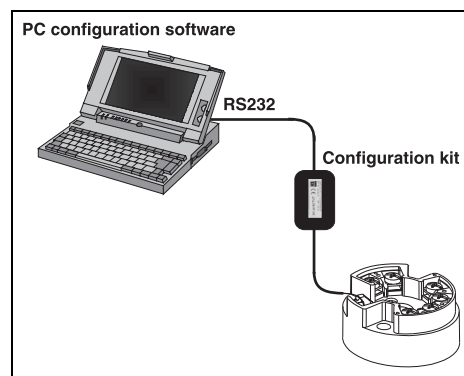

Fig. 3: Connection to PC for configuration
1. Connect the SETUP connector of the interface connecting cable to the SETUP socket in the head transmitter (see 'Fig. 3' in Chapter 4.2).